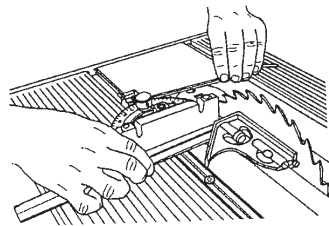

Figure C-51
- a. Use a long Allen wrench to loosen the lock knob and adjust the miter gauge so it is perpendicular to the saw blade, then tighten the lock knob. See Figure C-51.